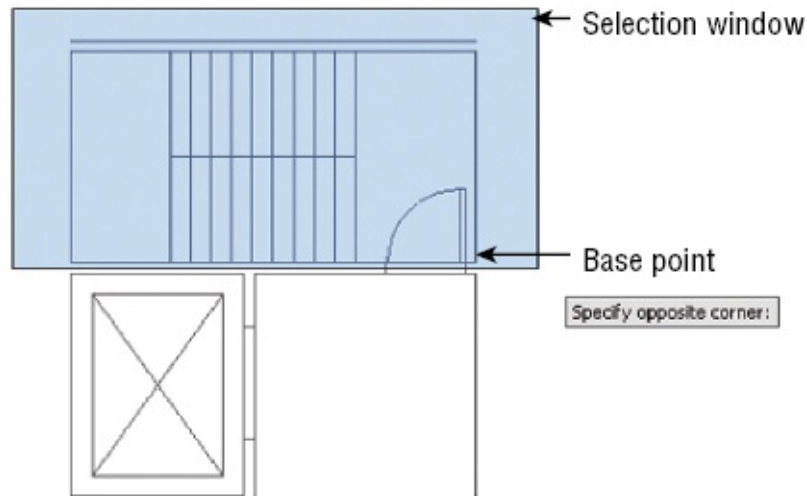

FIGURE 6.37 A selection window enclosing the stair shaft
6. At the Select objects: prompt, use a standard window (not a crossing window) to select the stair shaft, as shown in Figure 6.37.